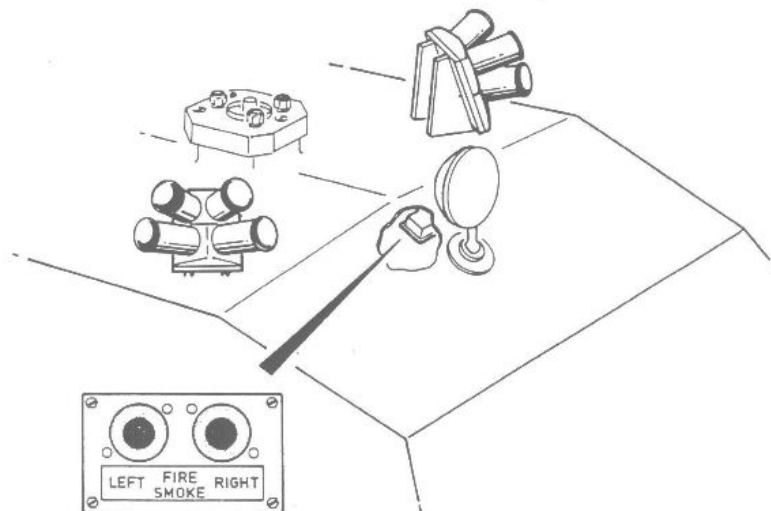

Fig.2-1 Smoke dischargers
6. Smoke dischargers (Fig. 2-1)